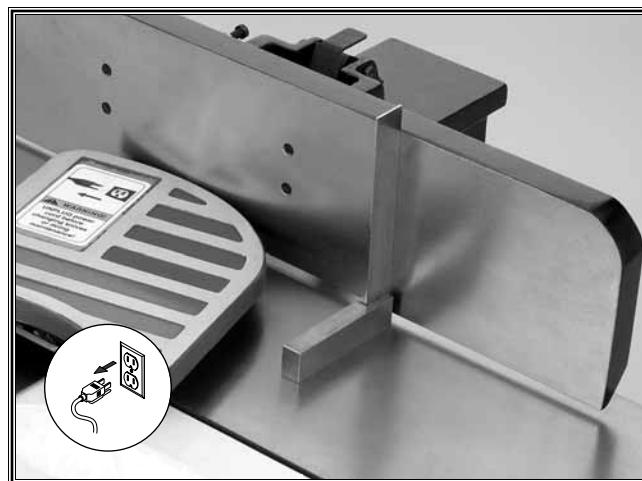

Figure 21. Setting the fence to 90°.
1. Using a machinist's square, position the fence 90° relative to the table surface (**Figure 21**).